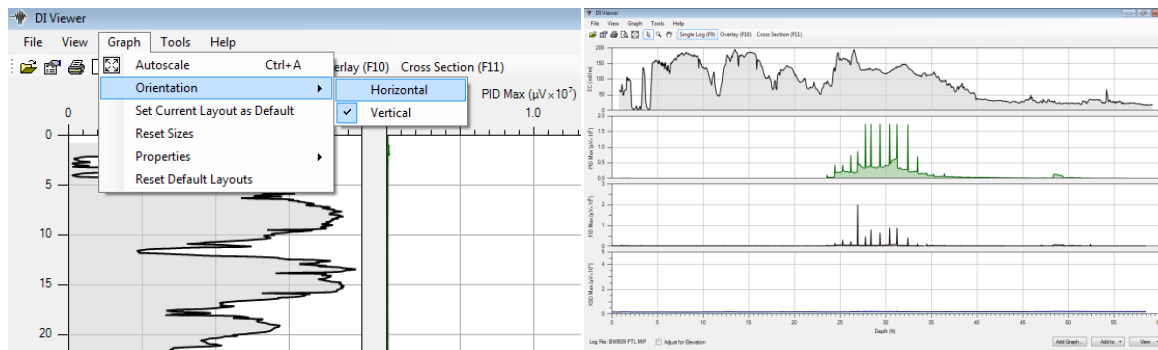

Figure 8: Changing graph orientation between vertical and horizontal places the depth on the X axis.
3. Select *Orientation* and select either *Horizontal* or *Vertical* (Figure 8).